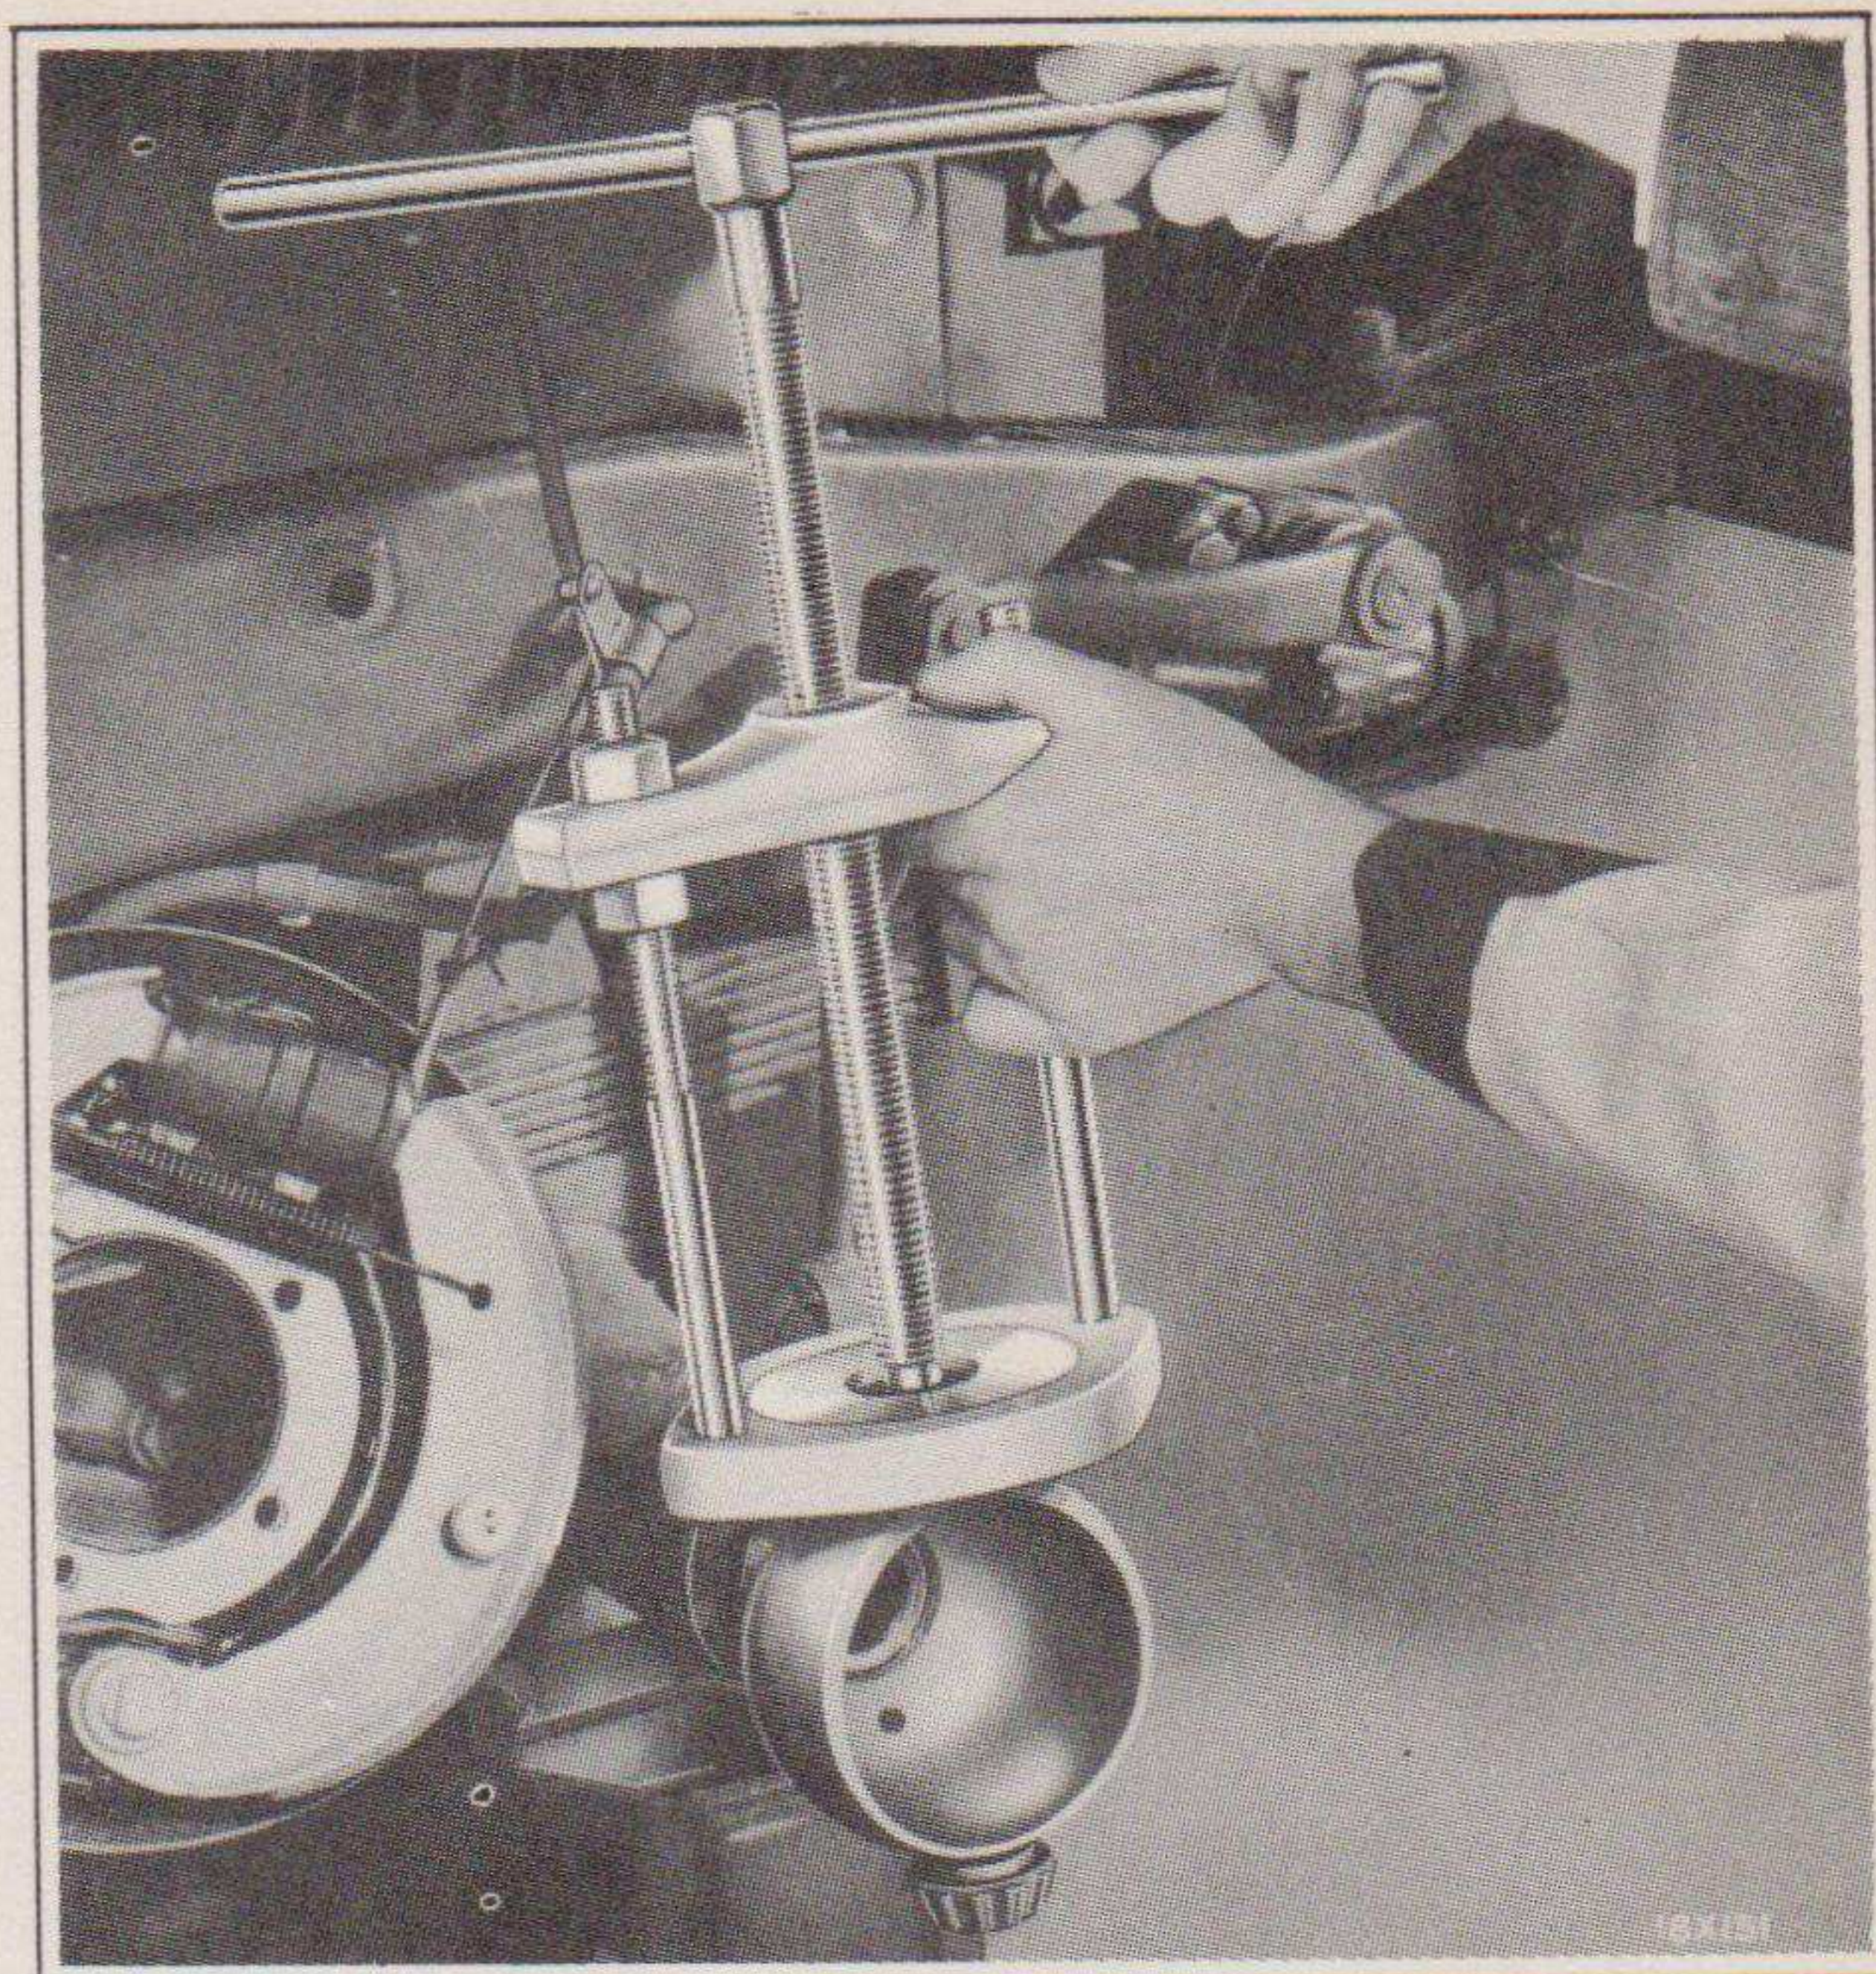

Fig. 31—Removing Steering Knuckle Flange Bearings (Tool C-293-U)
- (f) Pull the top and bottom bearing cones off the trunnion socket bearing pins on the ball end of the axle housing with a bearing puller. See Fig. 31.